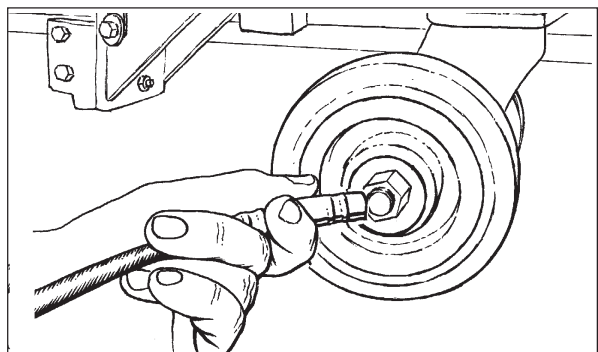

Figure 30
4. Use a grease gun to lubricate the dual casters. See figure 30.